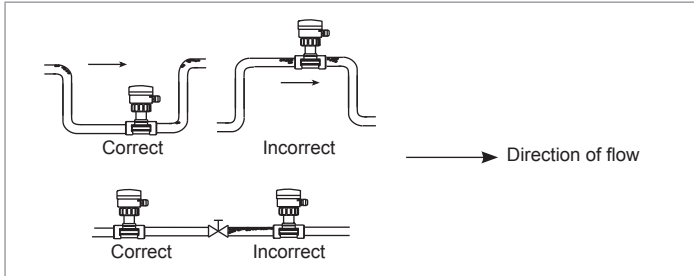

Figure 8: Air bubbles in the pipe
- Prevent formation of air bubbles in the pipe on the sensor (see Figure 8).